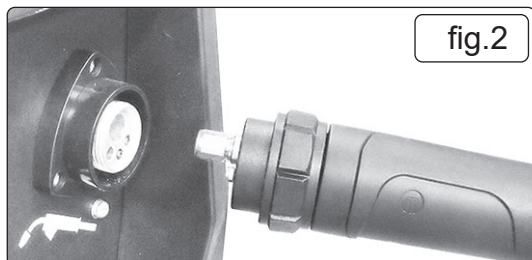

fig.2
- 6.2.1. The welding set is fitted with a "Euro Connection" quick release torch. Line up the pins in the torch connector with the appropriate holes in the socket on the front panel connector (fig.2), push in, engage and tighten the locking nut (fig.3).